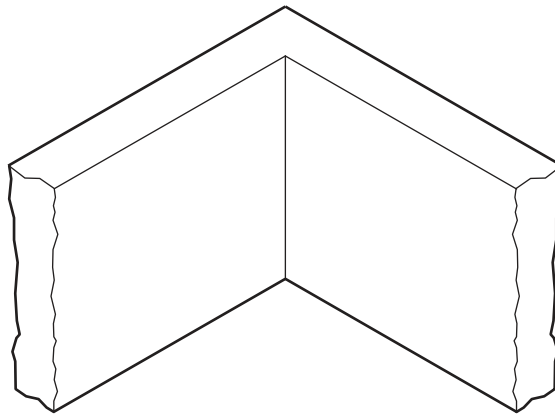

Fig. 12.2
- (c) A 5 mm thick MDF base will be fitted inside the box. Fig. 12.2 shows one inside corner of the box.
Add sketches and notes to Fig. 12.2 to show how the base could be fitted inside the box.